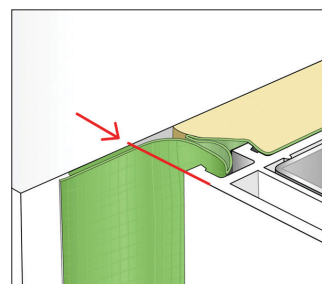

Fig 3
- Bond membrane to reveal using the butyl strip. Ensure that the membrane is located as in fig 3.
- Bond membrane to reveal using the butyl strip. Ensure that the membrane is located as in fig 3. Consolidate the bond using a seam roller.